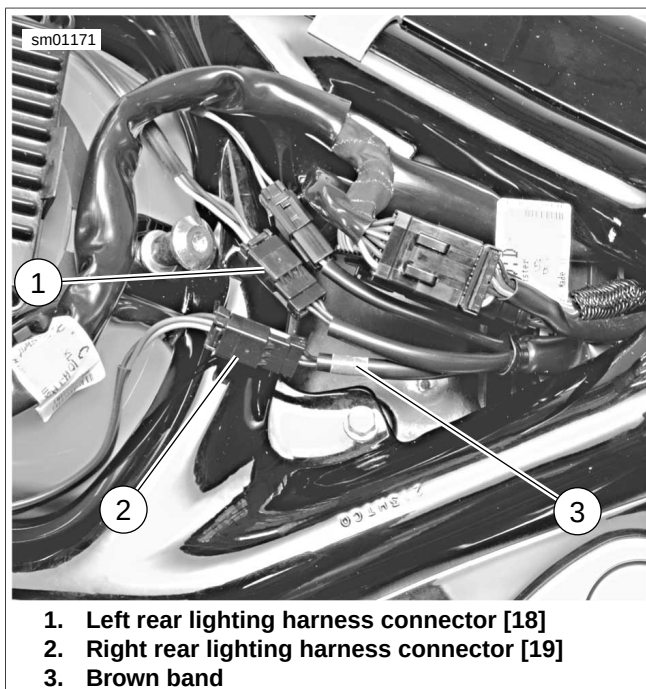
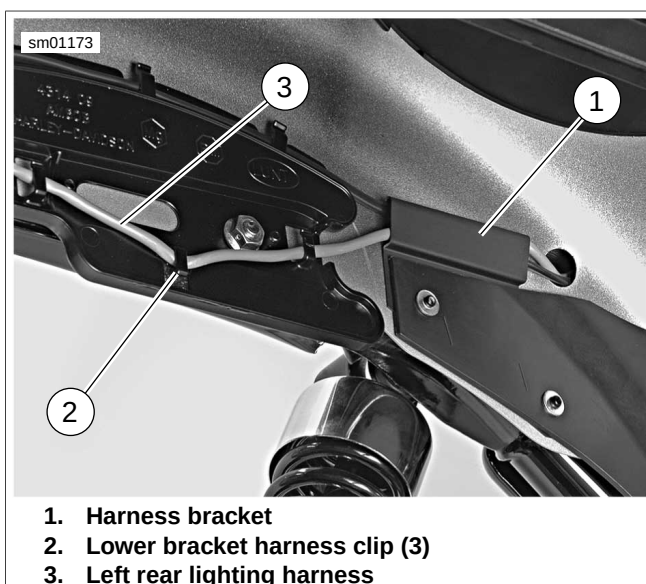
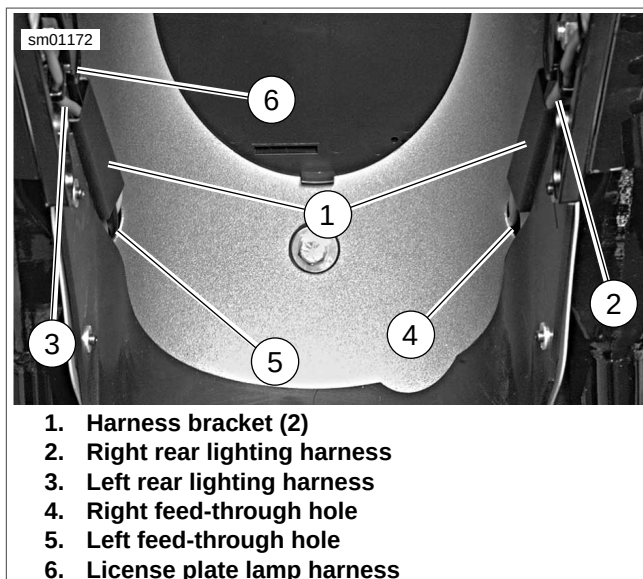

Figure 6-73. Rear Lighting Harness Connectors: XL 1200N
Figure 6-74. Rear Lighting Harness Removal/Installation: XL 1200N (Typical)
Figure 6-75. Lighting Harnesses and Harness Brackets (View from Inside Rear Fender): XL 1200N
3. See Figure 6-73. Unplug rear lighting harness connectors [18], [19] (1, 2).
4. See Figure 6-74. Remove left rear lighting harness (3) from harness bracket (1). Repeat this step for right rear lighting harness.
5. Remove lighting harness from lower bracket harness clips (2). Repeat this step for right rear lighting harness.
6. See Figure 6-75. Pull both rear lighting harnesses (2, 3) through feed-through holes (4, 5) in rear fender.
1. See Figure 6-75. Insert each rear lighting harness (2, 3) through feed-through holes (4, 5) in rear fender.
2. See Figure 6-74. Install left rear lighting harness (3) into lower bracket harness clips (2). Repeat this step for right rear lighting harness.
3. Install left rear lighting harness into harness bracket (1). Repeat this step for right rear lighting harness.
4. See Figure 6-73. Plug in both rear lighting harness connectors [18], [19] (1, 2). Note that right rear lighting harness connector mates with connector with brown band (3) on harness.